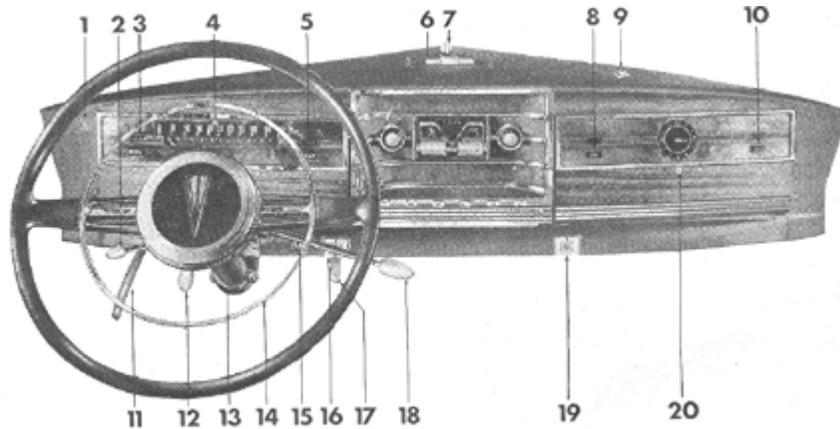

Figure 6
ASH RECEIVER (6), Fig. 6, may be opened by lifting the knob.
BONNET LOCKING HANDLE (12), Fig. 6, should be pushed fully forward to unlock the bonnet. Pull handle back all the way to lock it.
CLOCK (20), Fig. 6. Mechanical clock requires winding every day. Turn knob clockwise to wind. Pull knob out to reset. Electric clock requires no attention. Fuse is located in back of clock. Pull out knob to reset.
COWL VENTILATOR HANDLE (17), Fig. 6, should be pushed forward to open ventilator and pulled back to close it.
HAND BRAKE HANDLE (11), Fig. 6, should be applied by pulling straight back *and at the same time depressing the brake pedal*. Release by turning  $1/4$  turn to right and pushing downward as far as it will go.
HEADLAMP BEAM INDICATOR (4), Fig. 6, shows red when head lamp beam is in upper or country driving position.
HORN BUTTON RING (14), Fig. 6 (Opt. equipment on Series 171, 173, and 178 ; std. on Series 172 and 174). Press down from any position to operate horns.
RHEOSTAT (13), Figure 6, located at bottom of instrument panel, is standard on Series 172 and 174. It controls the brilliancy of instrument lights. Turning knob to right decreases light and turning it to the left increases brilliancy. Extreme left position turns out instrument lights.
WATER TEMPERATURE GAUGE (5), Fig. 6, indicates temperature of cooling fluid only when ignition is turned on. Needle returns to "H" position at right side of dial when ignition is turned oil.